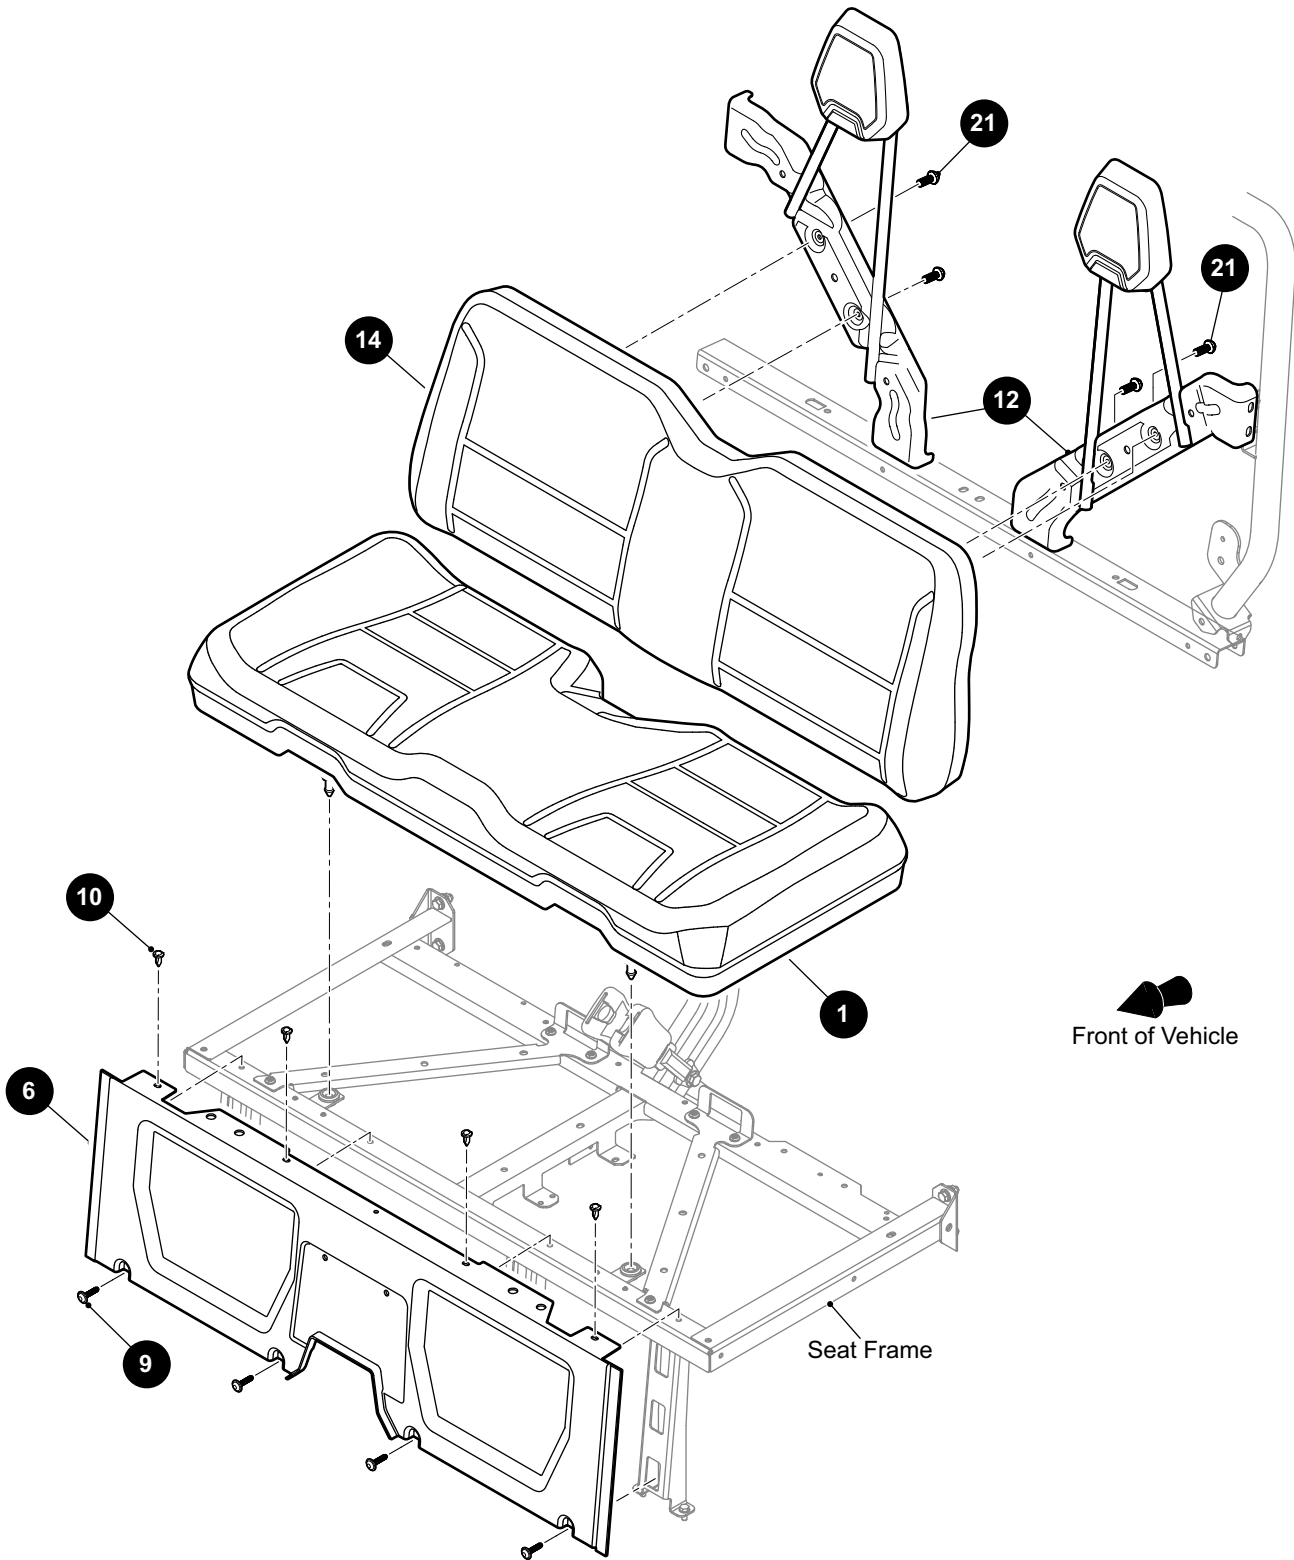

Fig. 13 Seat Components
1. The seat bottom (1) is removed by grasping the front edge of the seat bottom and pulling up and out of the vehicle. (See Fig. 13)
1. Remove the four bolts (21) that secure the seat back (14) to the seat back supports (12) (See Fig. 13).
1. Remove the four bolts (9) that secure the bottom of the seat closeout (6) to the seat frame (See Fig. 13).
2. Remove the four plastic rivets (10) that secure the top of the seat closeout (6) to the seat frame.